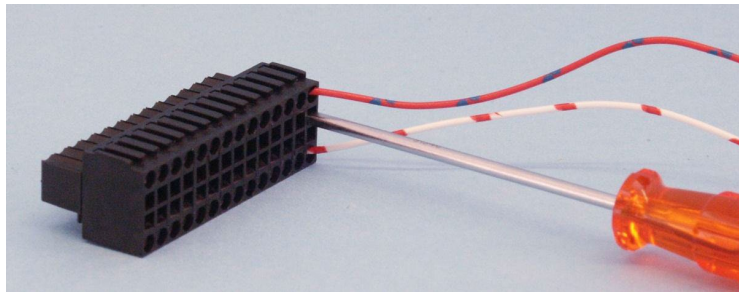

Figure 25 - PLC Connector
3. Connect the PLC connector (Figure 25) to the controller.